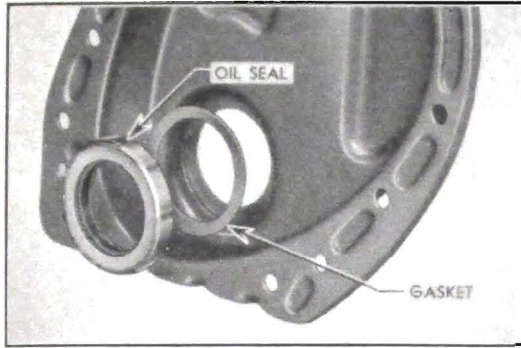

Fig. 6-8. Timing Chain Cover Oil Seal and Gasket
- the hub of torsion balancer. See Fig. 6-8.